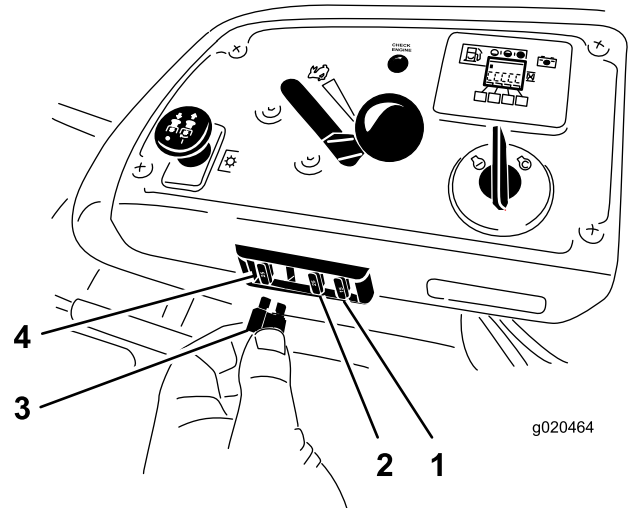

Figure 58
1. The fuses are located on right console next to the seat (Figure 58).
3. Install a new fuse (Figure 58).